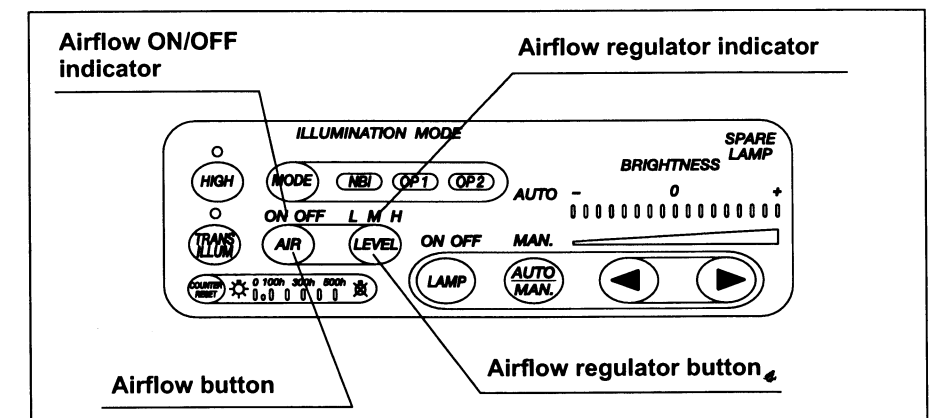

Figure 3.12
- Then press the airflow regulator button repeatedly and confirm that the indication of the airflow regulator indicator is switched in the cycle of "L" (low), "M" (medium) and "H" (high) (see Figure 3.12).